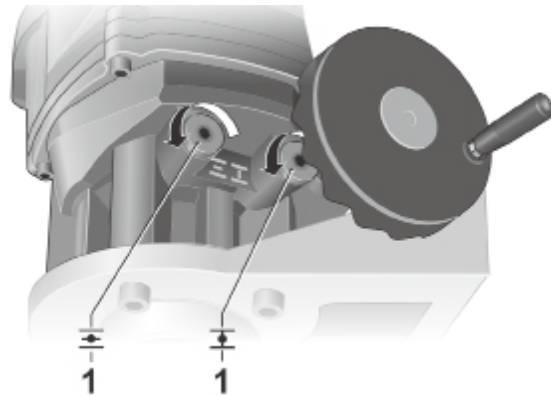

Fig. 1: Screw plugs for end stops
1. Unscrew right screw plug for end stop CLOSED (fig. 1, item 1).